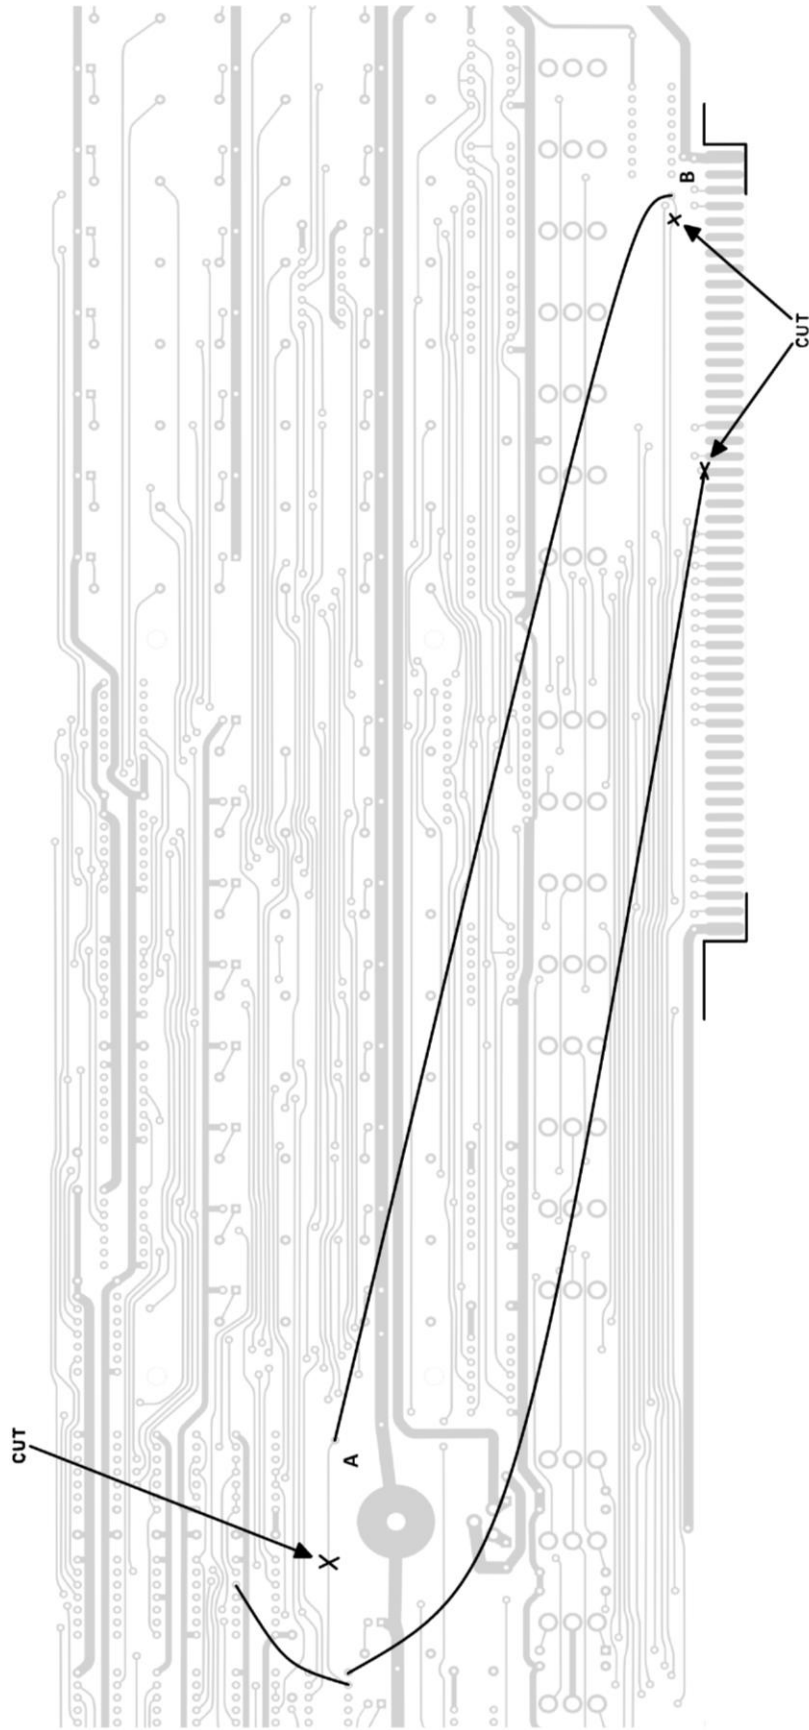

FIGURE 2
2. Refer to FIGURE 2 and make the following cuts on the solder side of the board.
3. Refer to FIGURE 2 and install the following jumpers on the solder side of the board.